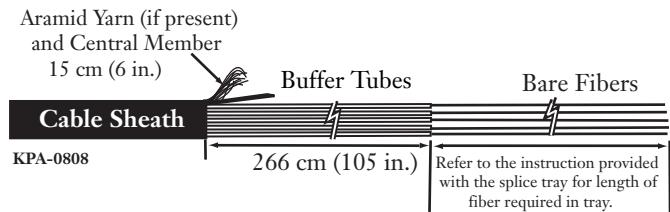

Figure 5 — Recommended Strip Lengths
Step 1: Remove the cable sheath as described in the sheath removal instructions for the cable you are using (Figure 5).